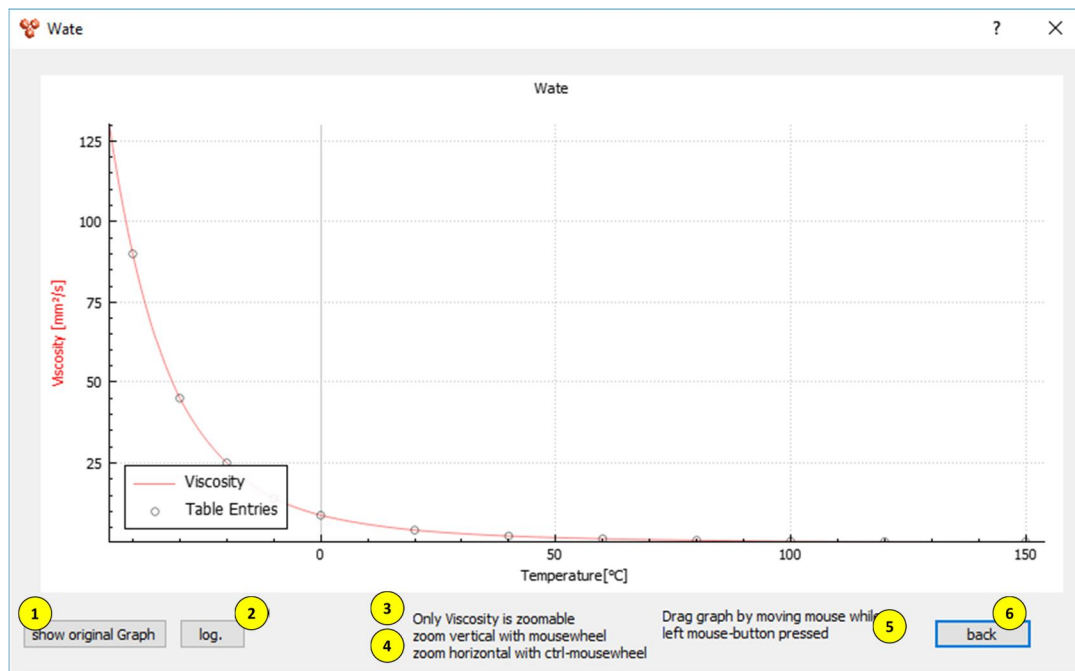

Fig. 16 Viscosity curve and associated functions
| <p>(1) „show original Graph“:Back to the original curve [Fig. 16]</p> <p>(2) „log.“:Switching between linear and logarithmic presentation [Fig. 16]</p> <p>(3) Mouse wheel:Zoom along Y axis [Fig. 16]</p> | <p>(4) Crtl + Mouse wheel:Zoom along in X axis [Fig. 16]</p> <p>(5) Hold down the left mouse button and move the mouse:Moving the graph [Fig. 16]</p> <p>(6) „back“:Back to the software [Fig. 16]</p> |